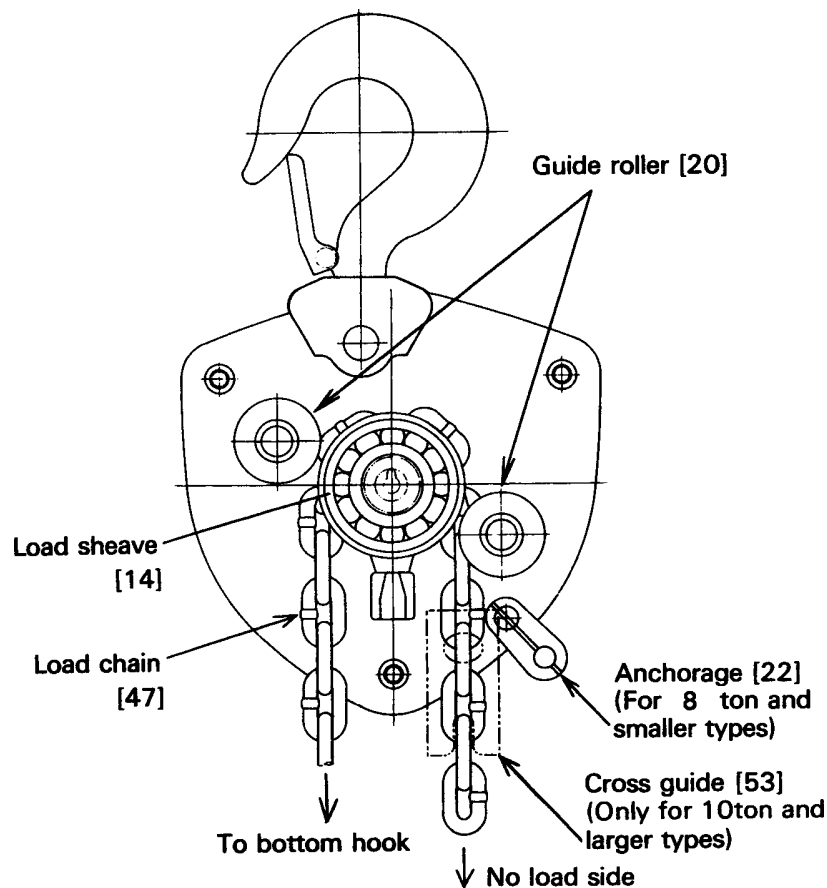

Figure 6-6 Reeving Assembly
- 13)** Reeve the load chain [47] turning the pinion clockwise through the space between the left (bottom hook side) guide roller [20] and the load sheave [14]. See figure 6-6.